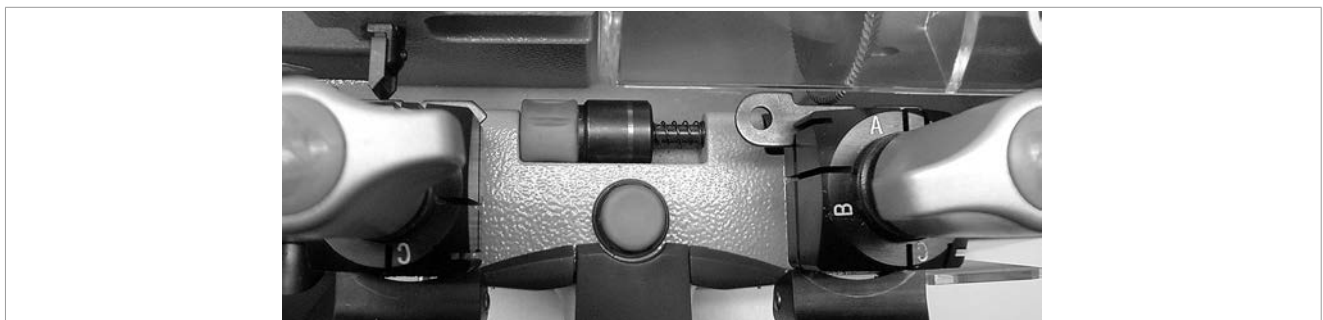

Fig. 14
- 5) Take the flat part of the key into contact with the cutting tool and tracer point (Fig. 14).